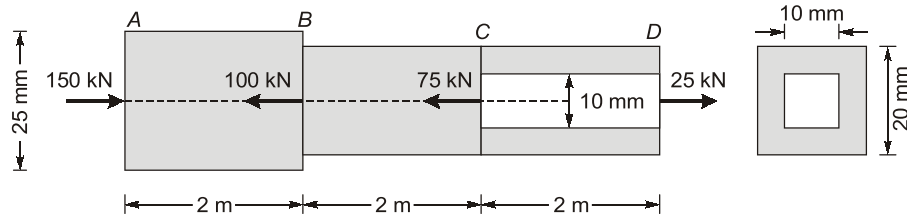

Fig. 1.4
**Q.1.6** A steel rod of square cross-section is loaded as shown in the figure 1.4.